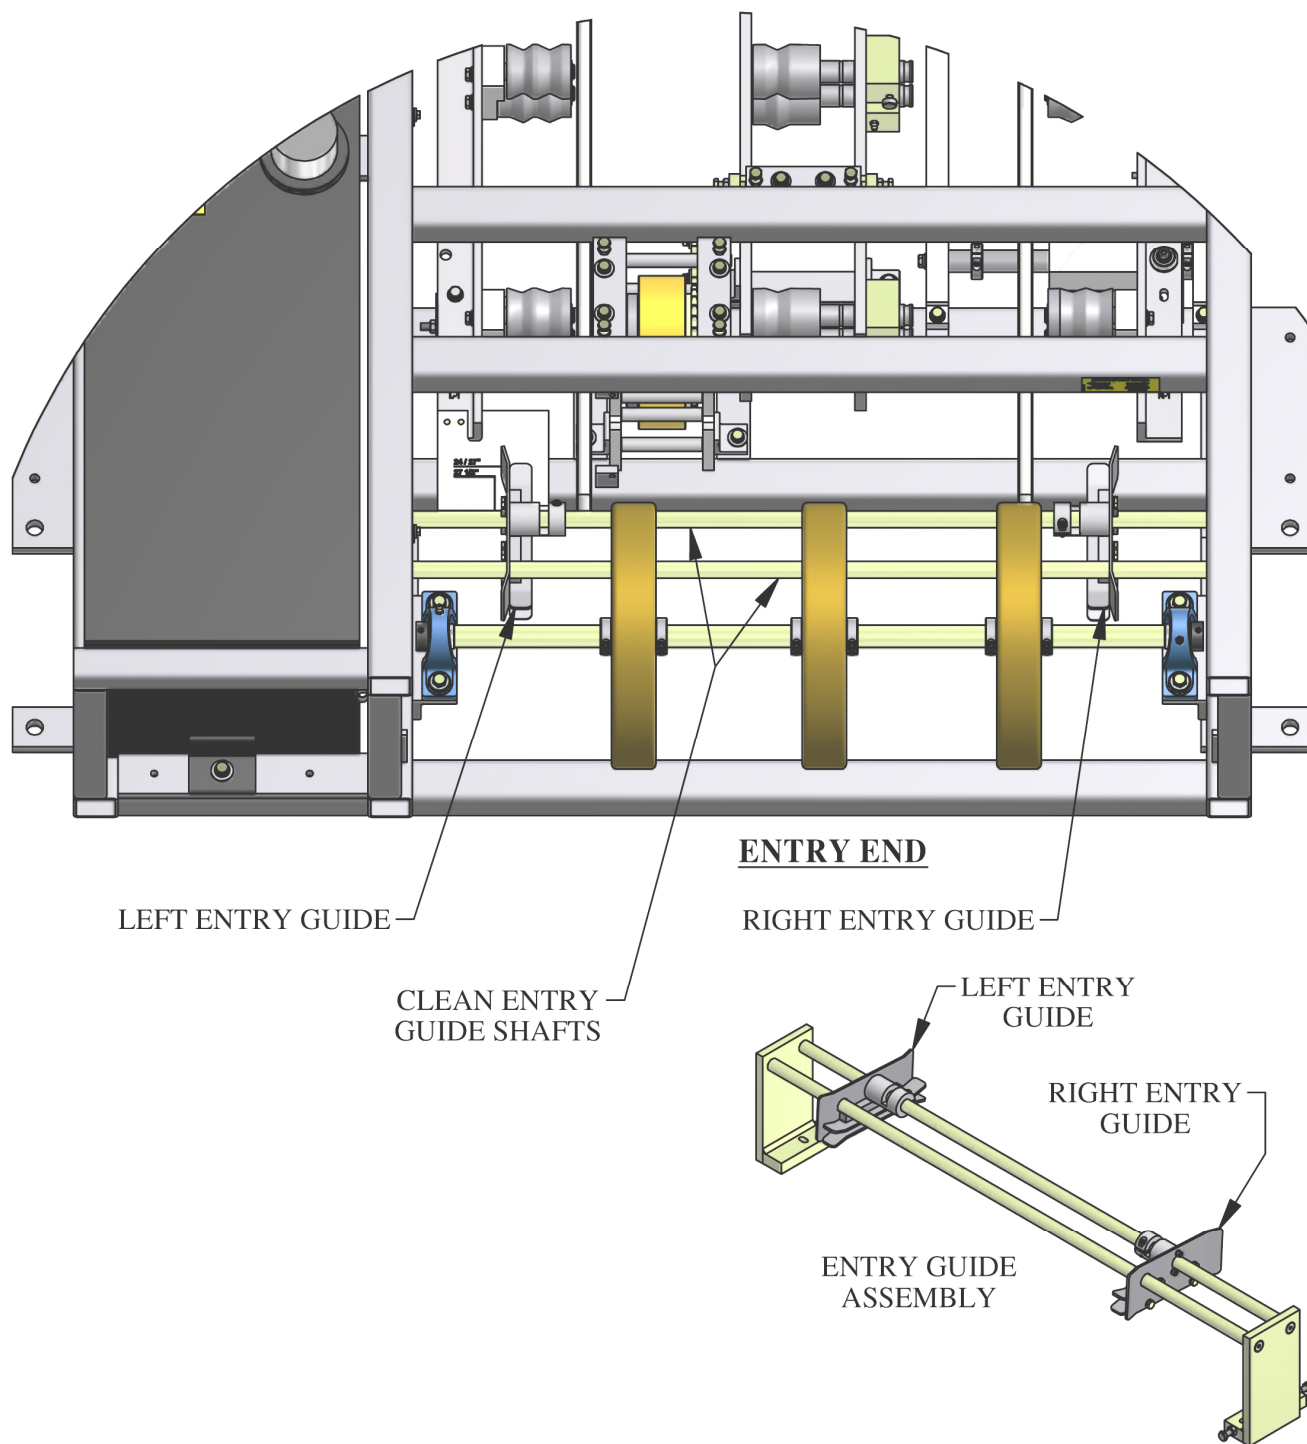

Figure 3: Clean Entry Guide
7. Keep Entry Guide Carriage clean (Figure 3 on page 9).